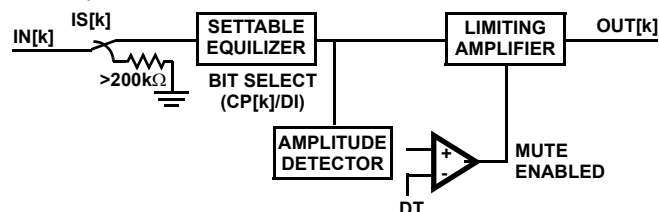

FIGURE 17. FUNCTIONAL DIAGRAM OF A SINGLE CHANNEL WITHIN THE QLx4300-S45
The QLx4300-S45 is an advanced quad lane-extender for high-speed interconnects. A functional diagram of one of the four channels in the QLx4300-S45 is shown in Figure 17. In addition to a robust equalization filter to compensate for channel loss and restore signal fidelity, the QLx4300-S45 contains unique integrated features to preserve special signaling protocols typically broken by other equalizers. The signal detect function is used to mute the channel output when the equalized signal falls below the level determined by the Detection Threshold (DT) pin voltage. This function is intended to preserve periods of line silence ("quiescent state" in InfiniBand contexts).
As illustrated in Figure 17, the core of each high-speed signal path in the QLx4300-S45 is a sophisticated equalizer followed by a limiting amplifier. The equalizer compensates for skin loss, dielectric loss, and impedance discontinuities in the transmission channel. Each